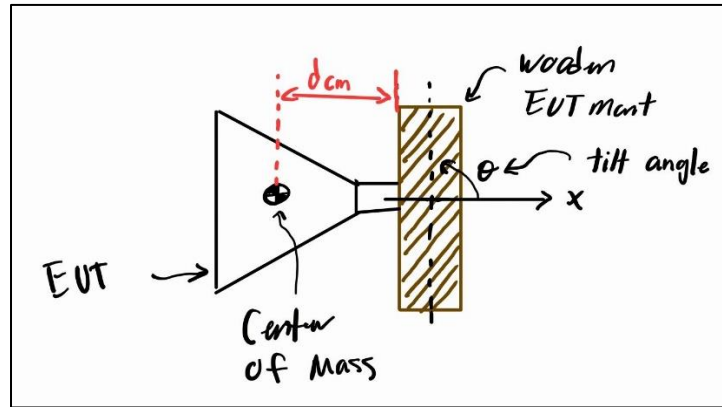

Figure 15. Visual Diagram of Center of Mass
3. **EUT Center of Mass** – this is how far out the center of mass of the EUT is from the face of the EUT mount Figure 15. This parameter can be determined by placing the EUT on a slim rod and positioning it until it balances, like a see-saw.